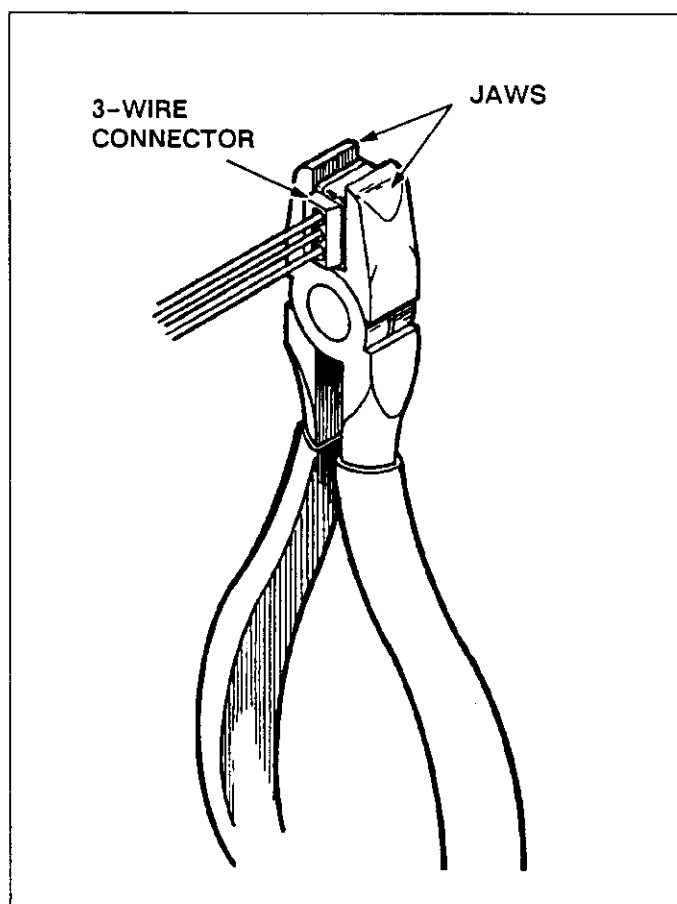

Fig. 2
4. Position the jaws of the tool over the connector. Check to be sure the wires have not shifted. Hold the wires in place and squeeze the tool handles together until the connector bottoms. See Figure 2.